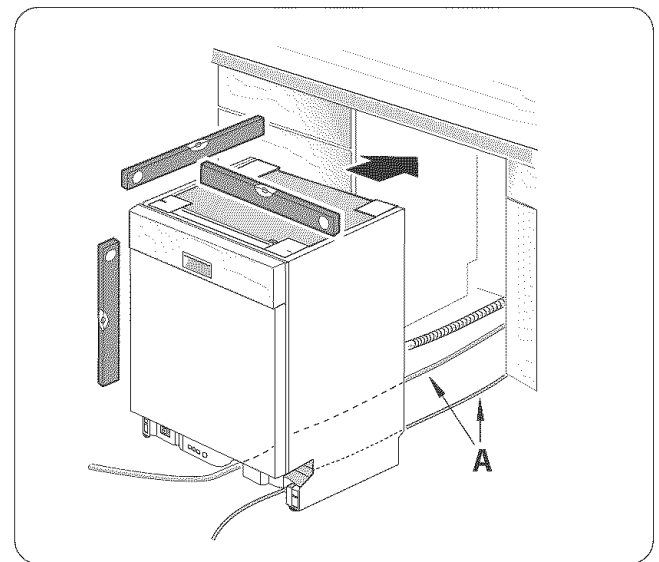
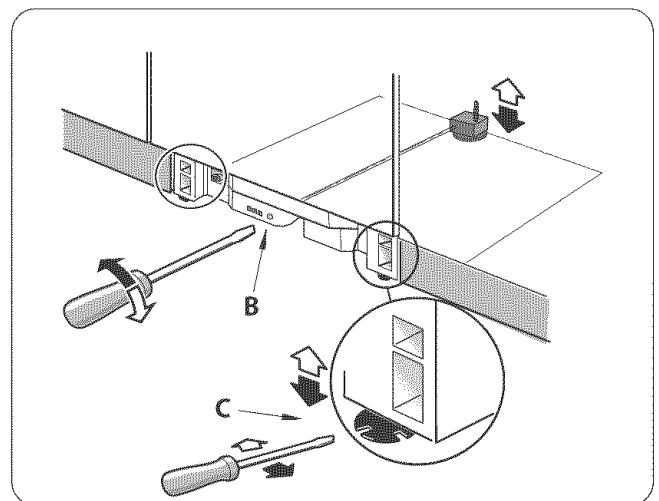

Figure 15
Figure 16
2) Position the dishwasher close enough to the enclosure so that you can run the dishwasher drain hose to the under sink drain connection. Make certain that the hot water supply line and the electrical supply cable are in their channels under the dishwasher base, as shown in Figure 15, letter A.
4) Perform a level check as shown in Figure 15. Adjust the rear leveler by turning the center screw at the front of the dishwasher, as shown in Figure 16, letter B. Turning the screw clockwise raises the rear of the dishwasher. Adjust the front levelers by turning them with a screwdriver, as shown in Figure 16, letter C. Turning the levelers to the right raises the dishwasher. If additional height is needed, shims may be added under the leveler feet.